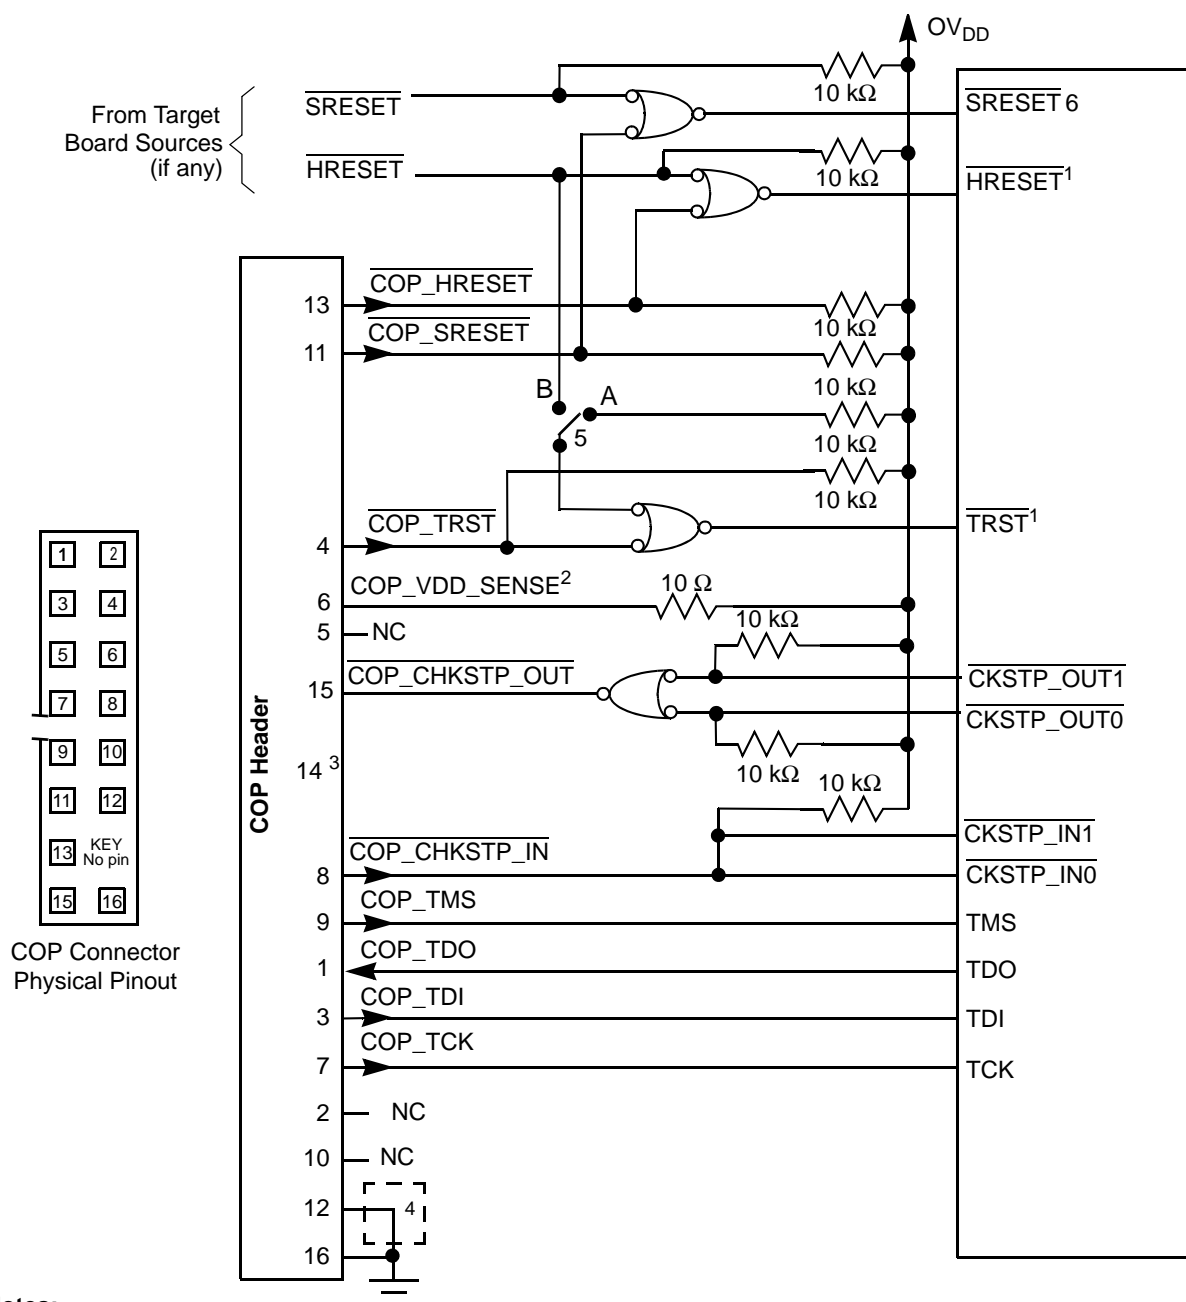

Figure 66. JTAG Interface Connection
Correct operation of the JTAG interface requires configuration of a group of system control pins as demonstrated in Figure 66. Care must be taken to ensure that these pins are maintained at a valid deasserted state under normal operating conditions as most have asynchronous behavior and spurious assertion gives unpredictable results.
The arrangement shown in Figure 66 allows the COP port to independently assert $\overline{\text{HRESET}}$ or $\overline{\text{TRST}}$, while ensuring that the target can drive $\overline{\text{HRESET}}$ as well.
- $\overline{\text{TRST}}$ should be tied to $\overline{\text{HRESET}}$ through a 0 k Ω isolation resistor so that it is asserted when the system reset signal ($\overline{\text{HRESET}}$) is asserted, ensuring that the JTAG scan chain is initialized during the power-on reset flow. Freescale recommends that the COP header be designed into the system as shown in Figure 66. If this is not possible, the isolation resistor allows future access to $\overline{\text{TRST}}$ in case a JTAG interface may need to be wired onto the system in future debug situations.